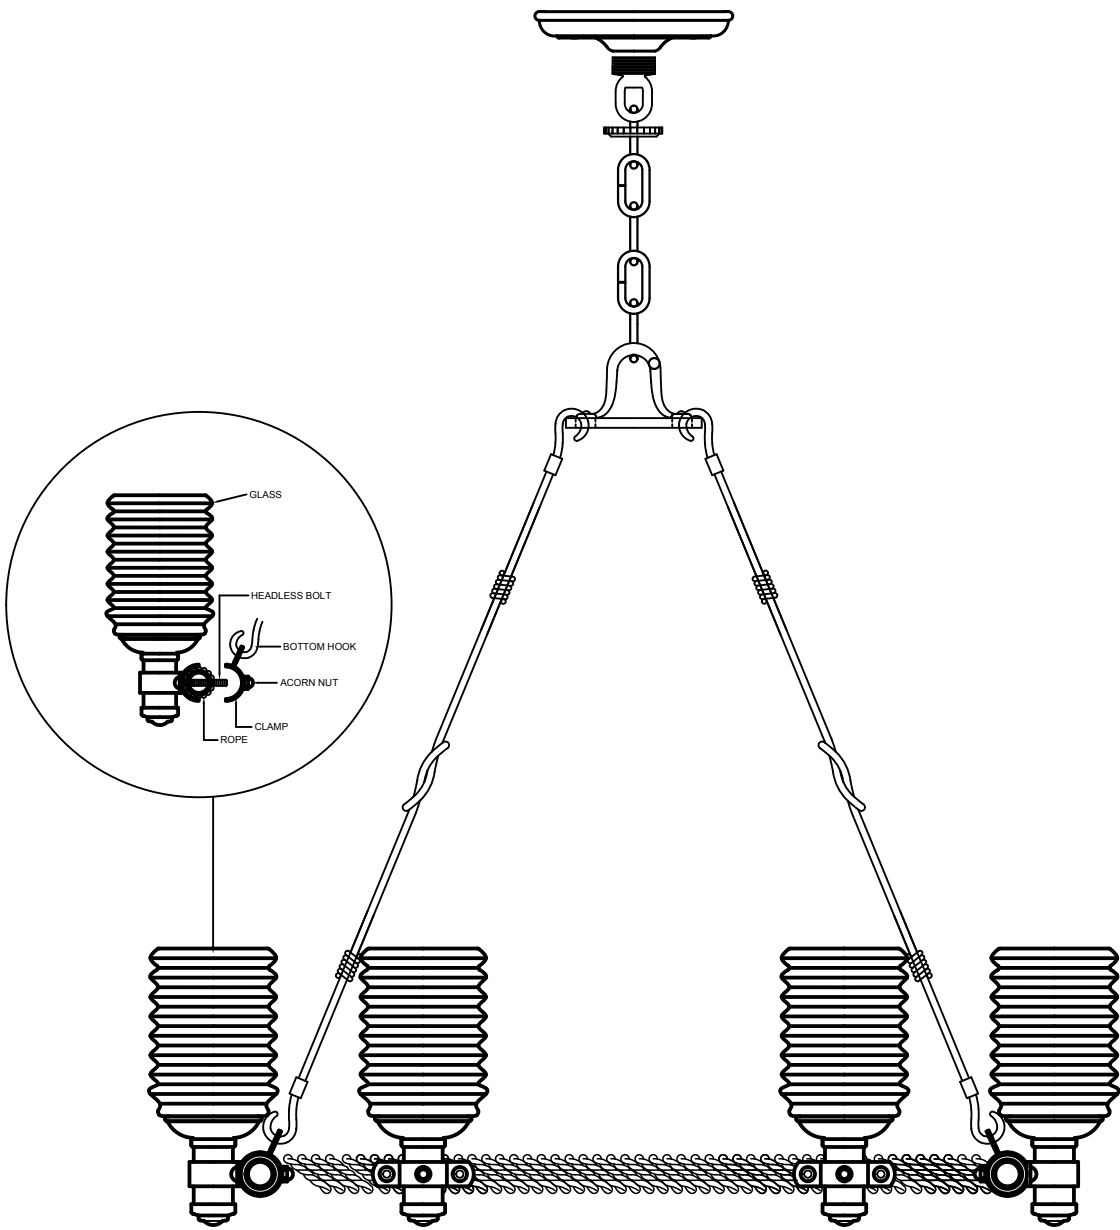

FIGURE 3
9. Open first the clamp by detaching the acorn nut and the bolt. Insert the top hook of the stick bar to the center canopy then the other side into the clamp. Follow the steps in the proceeding parts. See figure 3.